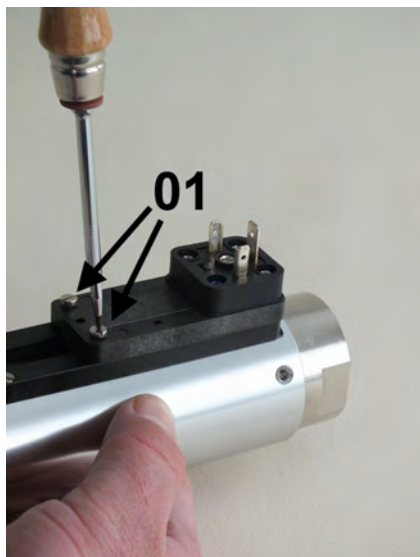

Fig. 56: Loosen set screws
3. ➤ Using a flat-bladed screwdriver (Fig. 56/01) loosen the set screws of the switch contact until it can move freely.
- 11.** ➤ Tighten the set screws (Fig. 56/01) observing the proper tightening torque of the screws (➤ *Chapter 11.1 "Tightening torque of screws" on page 80*)